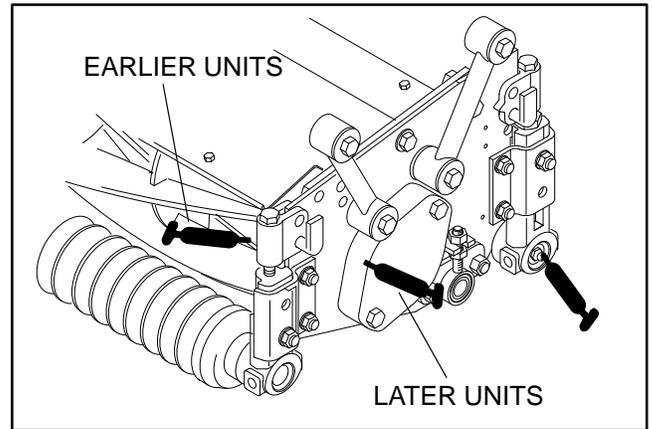
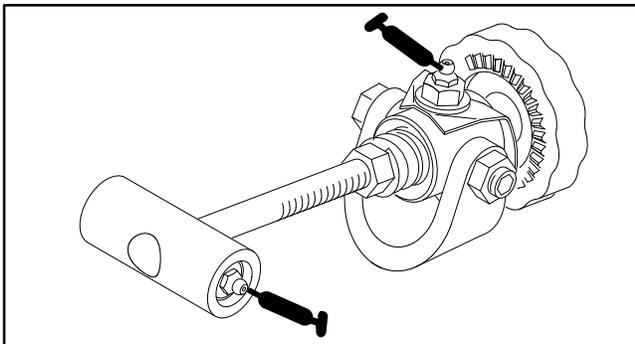

Figure 12
Figure 11
## Greasing Bearings, Bushings, and Pivot Points (Fig. 11 and Fig. 12)
**Note:** Each cutting unit has (8) grease fittings (with optional front roller installed) that must be lubricated regularly with No. 2 General Purpose Lithium Base Grease.
- A. Bedknife adjuster (2) (Fig. 11). Grease these fittings every 50 hours.
- B. Reel bearings (inside sideplate), (2) and front and rear rollers (2 ea.) (Fig. 12). Grease these fittings every 8 hours.